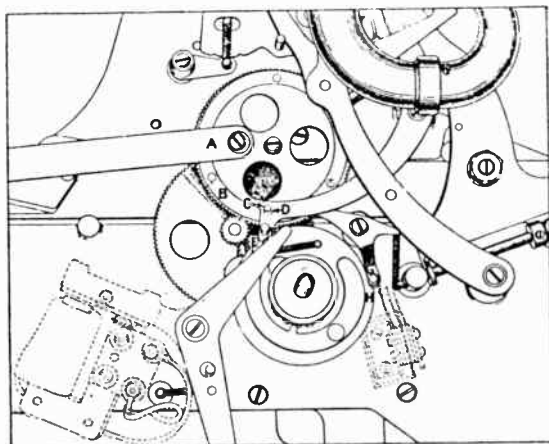

Fig. 9
12. Should the pick-up shunt switch (shown dotted in Fig. 9) fail to close or should it momentarily open after the reject button has been operated, or fail to open when the first music grooves are reached:
With roller "G" engaged in pawl carrier at point "H", Fig. 9, loosen screws holding pick-up shunt switch to the operating unit base, and adjust its position so that the contacts have a clearance of about 1/32 of an inch.
- c. Re-time mechanism in the following manner, referring to Fig. 9:
Upon replacing pawl carrier, "G" and "H" should be in position, as shown in Fig. 9.